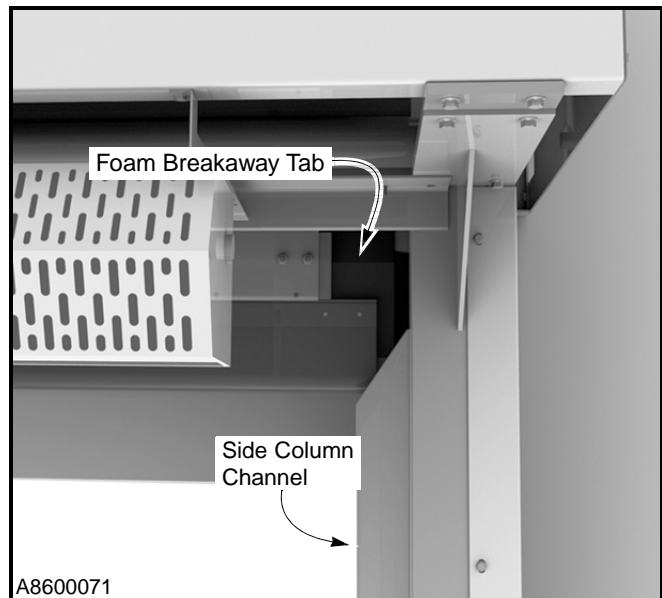

Figure 10
3. The door panel's breakaway tabs will roll upward above the side columns' channels. (See Figure 10)